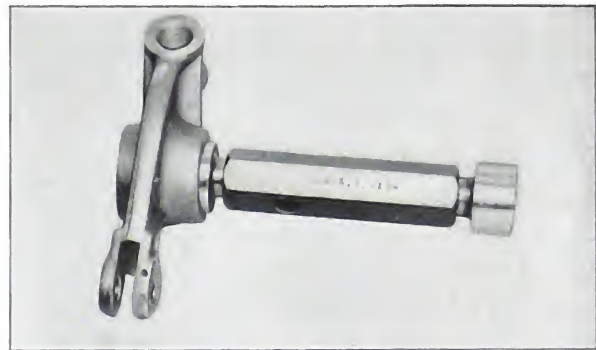

Fig. 4-8. Gauging bored rocker lever bushing
7. Check the size of the bored bushing with plug gauge ST-194. (Fig. 4-8).